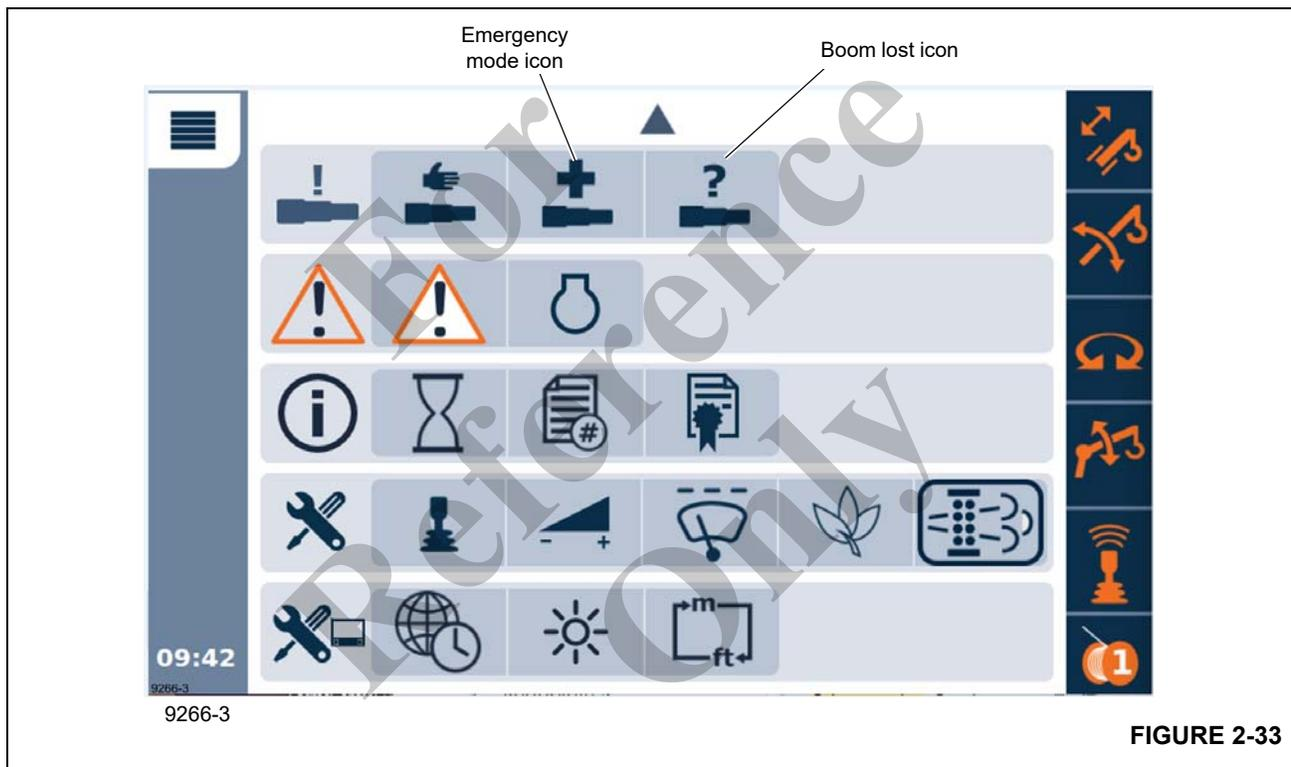
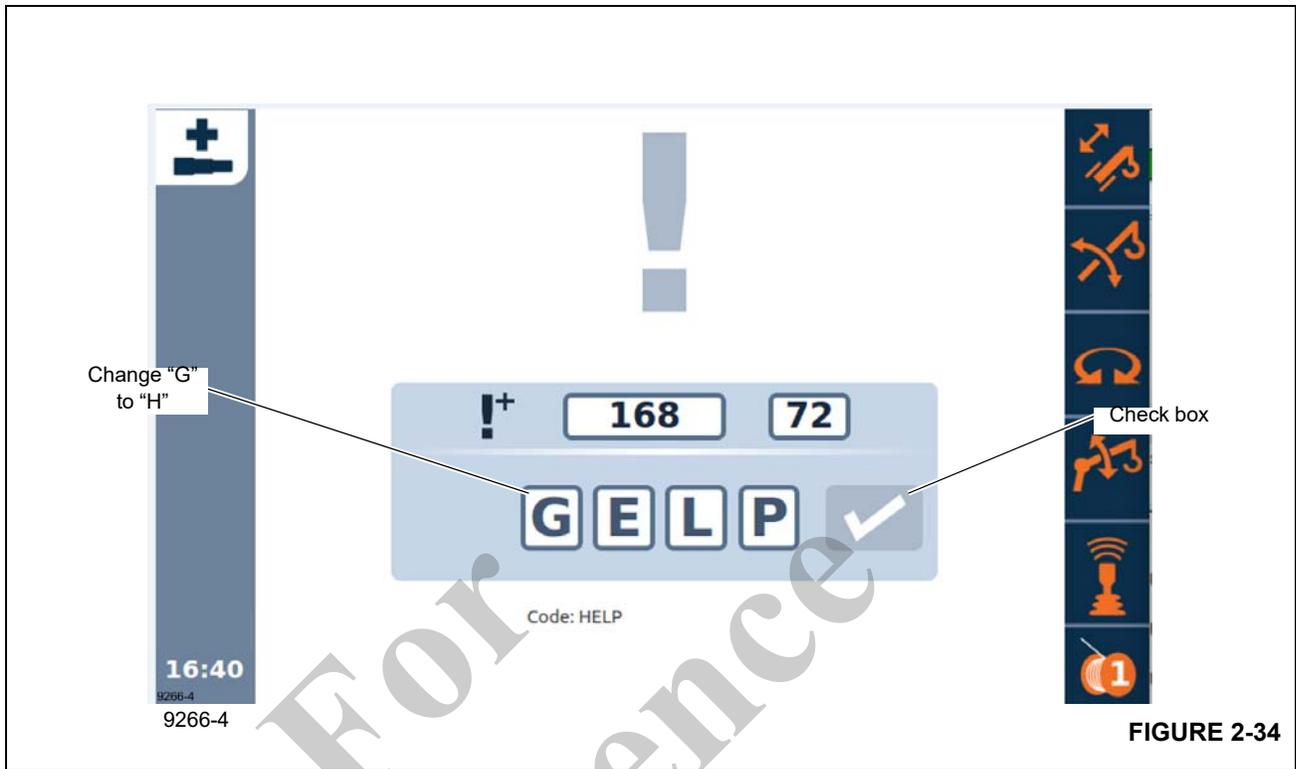

FIGURE 2-33
FIGURE 2-34
2. Start the engine and navigate to the boom recovery pinning screens. See (Figure 2-33, Figure 2-34 & Figure 2-35).
10. Return the boom pinning to it's normal state. See (Figure 2-33, Figure 2-37 & Figure 2-38).
Navigate to the Lower display menu screen and select the Boom lost icon. See (Figure 2-33).